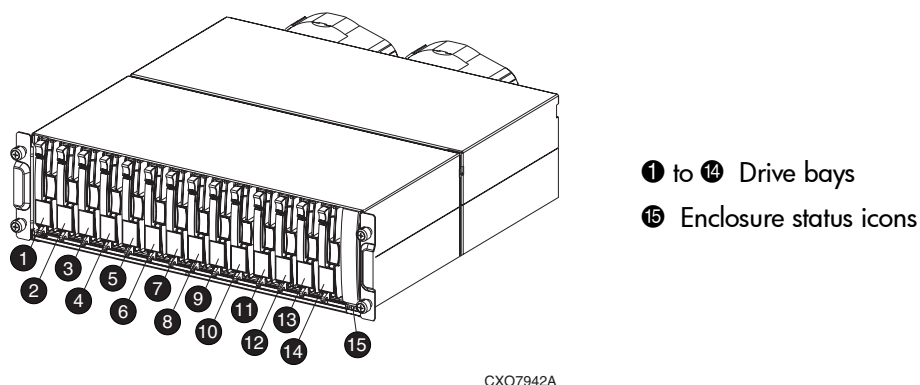

Figure 30: Drive enclosure—front view
The disk drives mount in the bays in the front of the enclosure. See Figure 30. These bays are numbered from the left (bay ①) to the right. A drive is referred to by the bay number. The drive in bay ① is drive 1, the drive in bay ⑧ is drive 8. The enclosure status icons are located in the lower-right, front corner ⑮.